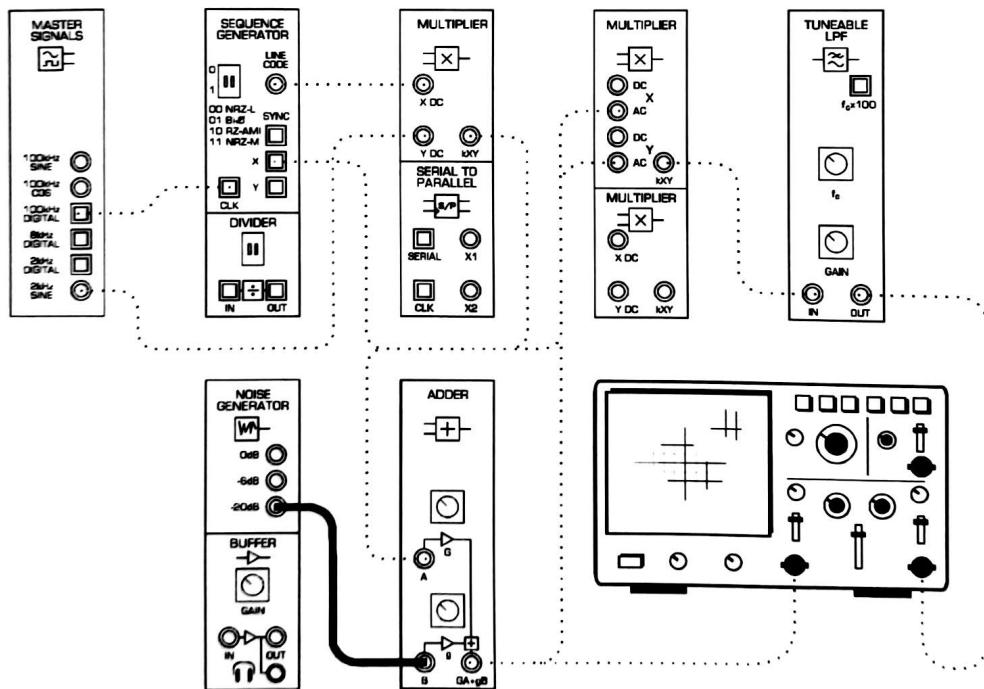

Figure 11
40. Modify the set-up as shown in Figure 11 below.